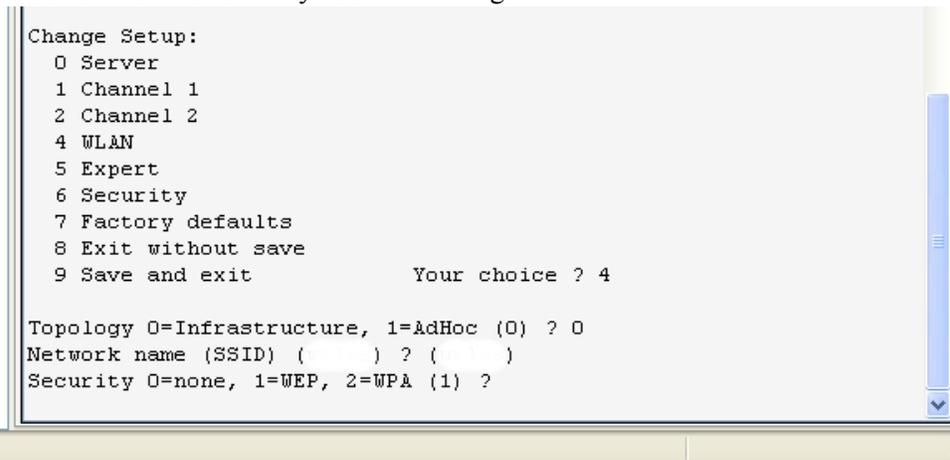

Figure 13. Security Level Select Screen
10. The next step is to select a level of security as shown in Figure 13.